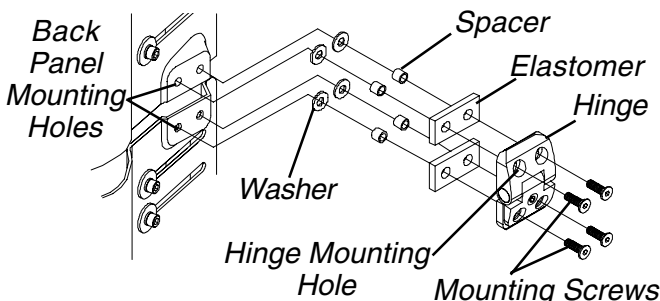

FIGURE 3 - ADJUSTING THE HINGE (DUALFLEX ONLY) - CONVERTING HINGES
Converting Dynamic Flex Hinges to Fixed Angle Hinges (FIGURE 3)
3. Position the hinge on the back, aligning the hinge mounting holes with the back panel mounting holes as shown in **FIGURE 3**.
4. Install the four (4) short mounting screws. Torque to 45-50 in./lbs.
Converting Fixed Angle Hinges to Dynamic Flex Hinges (FIGURE 3)
2. Position the elastomers, spacers and washers as shown in **FIGURE 3**.